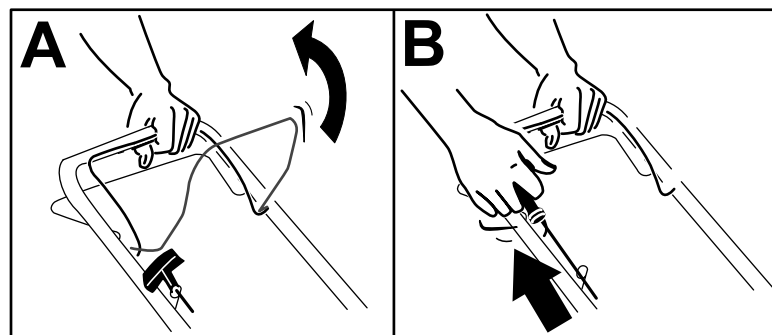

Figure 11
1. Pull the blade-control bar to the handle and hold it (A of Figure 11).
2. Pull the recoil-start handle (B of Figure 11) lightly until you feel resistance, then pull it sharply, and allow it to return to the rope guide on the handle slowly.